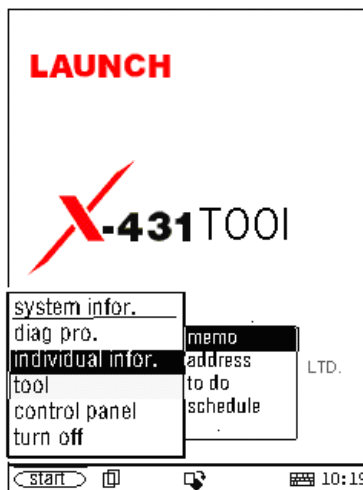

Fig 4-11
- 3) Select the function needed in the pop-up list. See Fig 4-11.